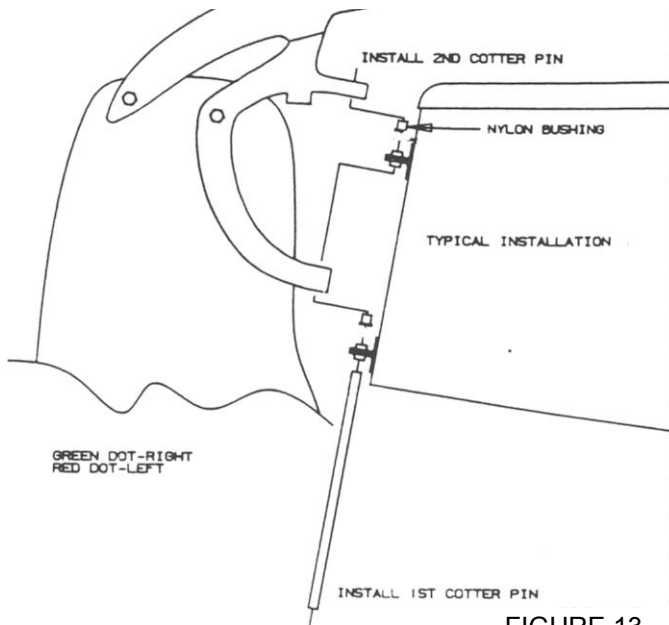

FIGURE 13
9.2 Insert one nylon bearing into the bottom of each hole in the rudder castings. (FIGURE 13)
9.3 Put one cotter pin on each rudder pin. (FIGURE 13)
9.4 Set the casting on the gudgeons. (FIGURE 13)
9.5 Push the rudder pin UP through the lower gudgeon and make sure to place a stainless steel washer between the gudgeon and the nylon bearing in the casting. (FIGURE 13)
9.6 Repeat step 4.5 for the upper gudgeon. (FIGURE 13)
9.7 Secure the top of the rudder pin with a second cotter pin. (FIGURE 13)